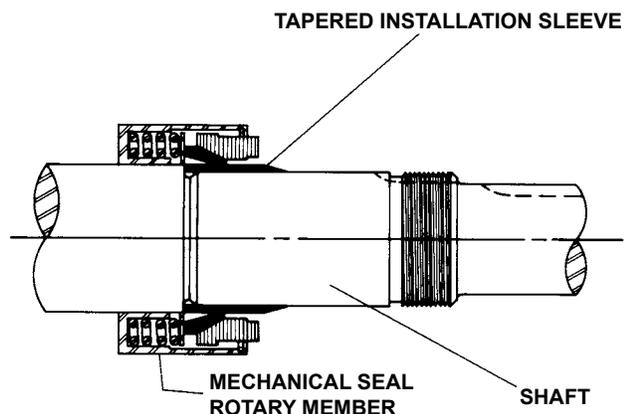

FIGURE 6
5. A tapered sleeve is available, at extra cost, for Q, QS and M pumps from Viking Pump Division for seal installation on shaft. LS size pump shaft is tapered and installation sleeve is not available. Place tapered sleeve on shaft, **Refer to Figure 6.**